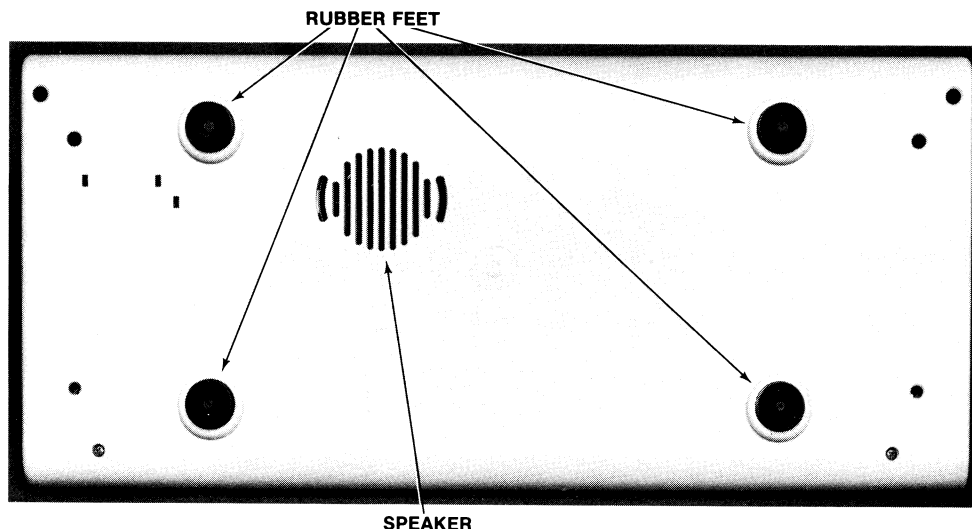

Figure 6-1 Keyboard Assembly Bottom
3. Check the rubber feet on the bottom of the keyboard assembly (see Figure 6-1) to ensure that they